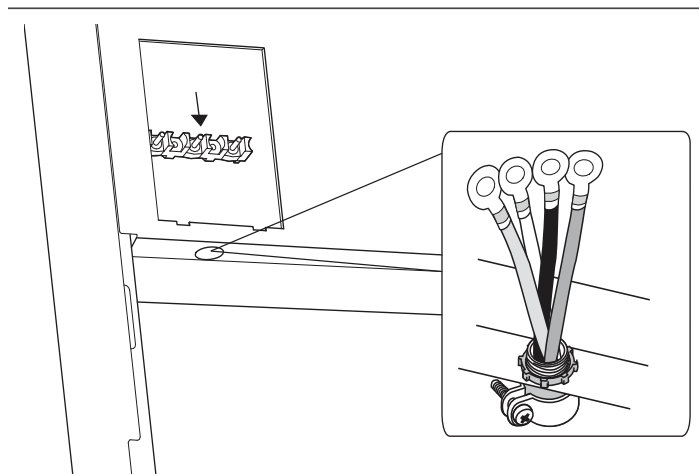

Figure 9: Strain Relief Location
Locate the terminal block on the rear of the unit and remove cover (refer to *Figure 9*). The conduit must be installed to the terminal block using an approved conduit connector. The free end of the conduit must be connected to a terminal block provided in the electrical supply zone, as shown in *Figure 4 on page 10*.
Mount a strain relief (not provided) into the 1" (25.4 mm) diameter hole located below the terminal block (see *Figure 9*). Wiring for the unit is to be brought into the terminal block through the conduit and through the strain relief. The ends of the wiring must have 1/4" (6 mm) faston closed-loop lugs attached, preferably soldered in place. Make the connections to the terminal block provided.
1. Locate the terminal block on the rear of the unit and remove cover (see *Figure 9*).